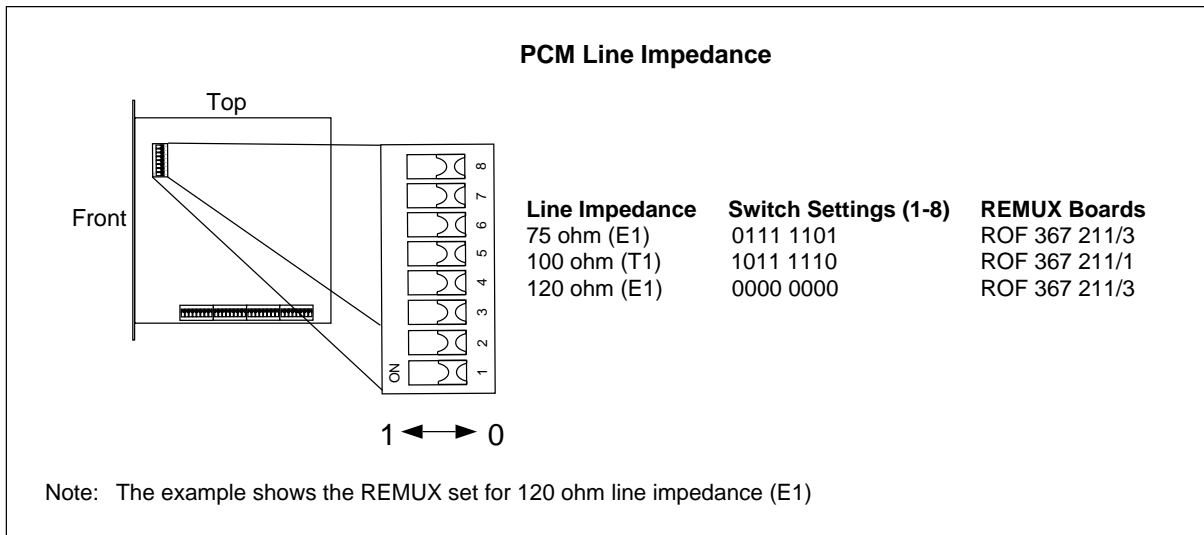

Figure 4-18. Setting the PCM Line Impedance
5. Set the unit to the PCM line impedance by setting the switches as shown in Figure 4-18 on page 4-37. The line impedance can be found in the *Configuration Data* in the *Site Installation Documentation*.